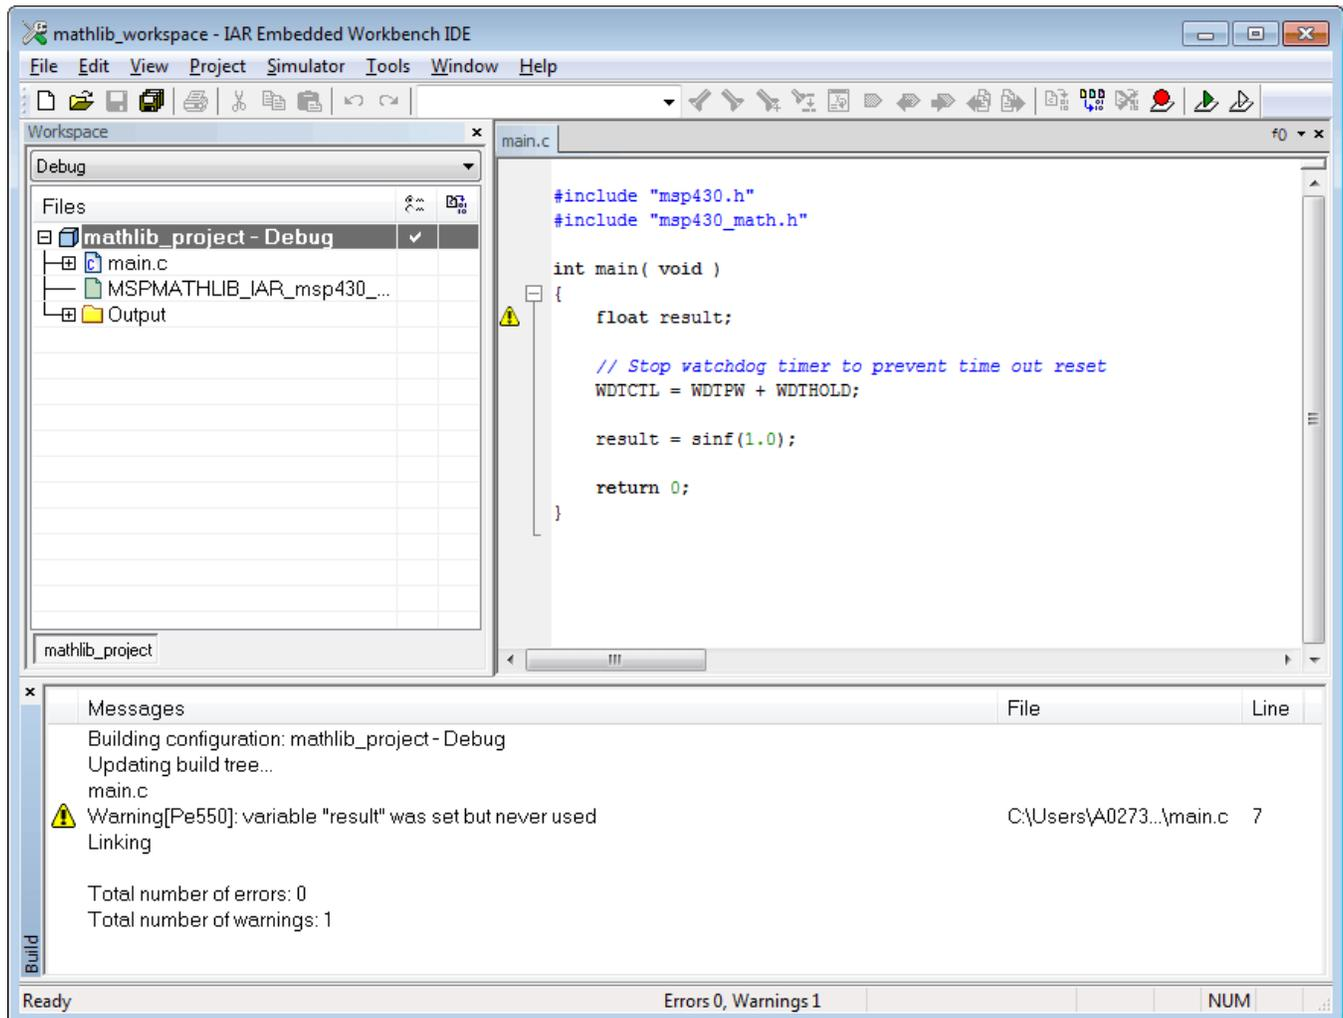

Figure 11. Build Project
- You can now build the project (see Figure 11). The MSPMATHLIB functions are linked in place of the standard math.h functions.